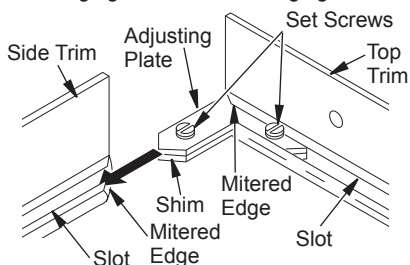

Figure 6 - Assembling Perimeter Trim
3. Align shim under adjusting plate as shown in Figure 6, page 10.
4. Slide one end of adjusting plate/shim in slot on mitered edge of top trim (see Figure 6, page 10).
- Slide other end of adjusting plate/shim in slot on mitered edge of side trim (see Figure 6).